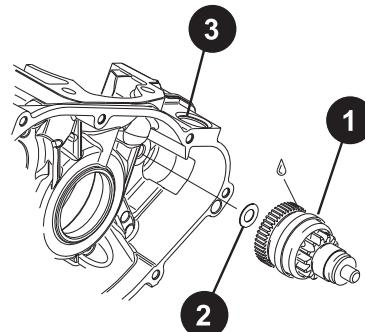

Fig. 28
- ⇒ Pull the starter drive, Fig. 28 (Item 1) and adjusting washer (Item 2) from the gearbox casing (Item 3).